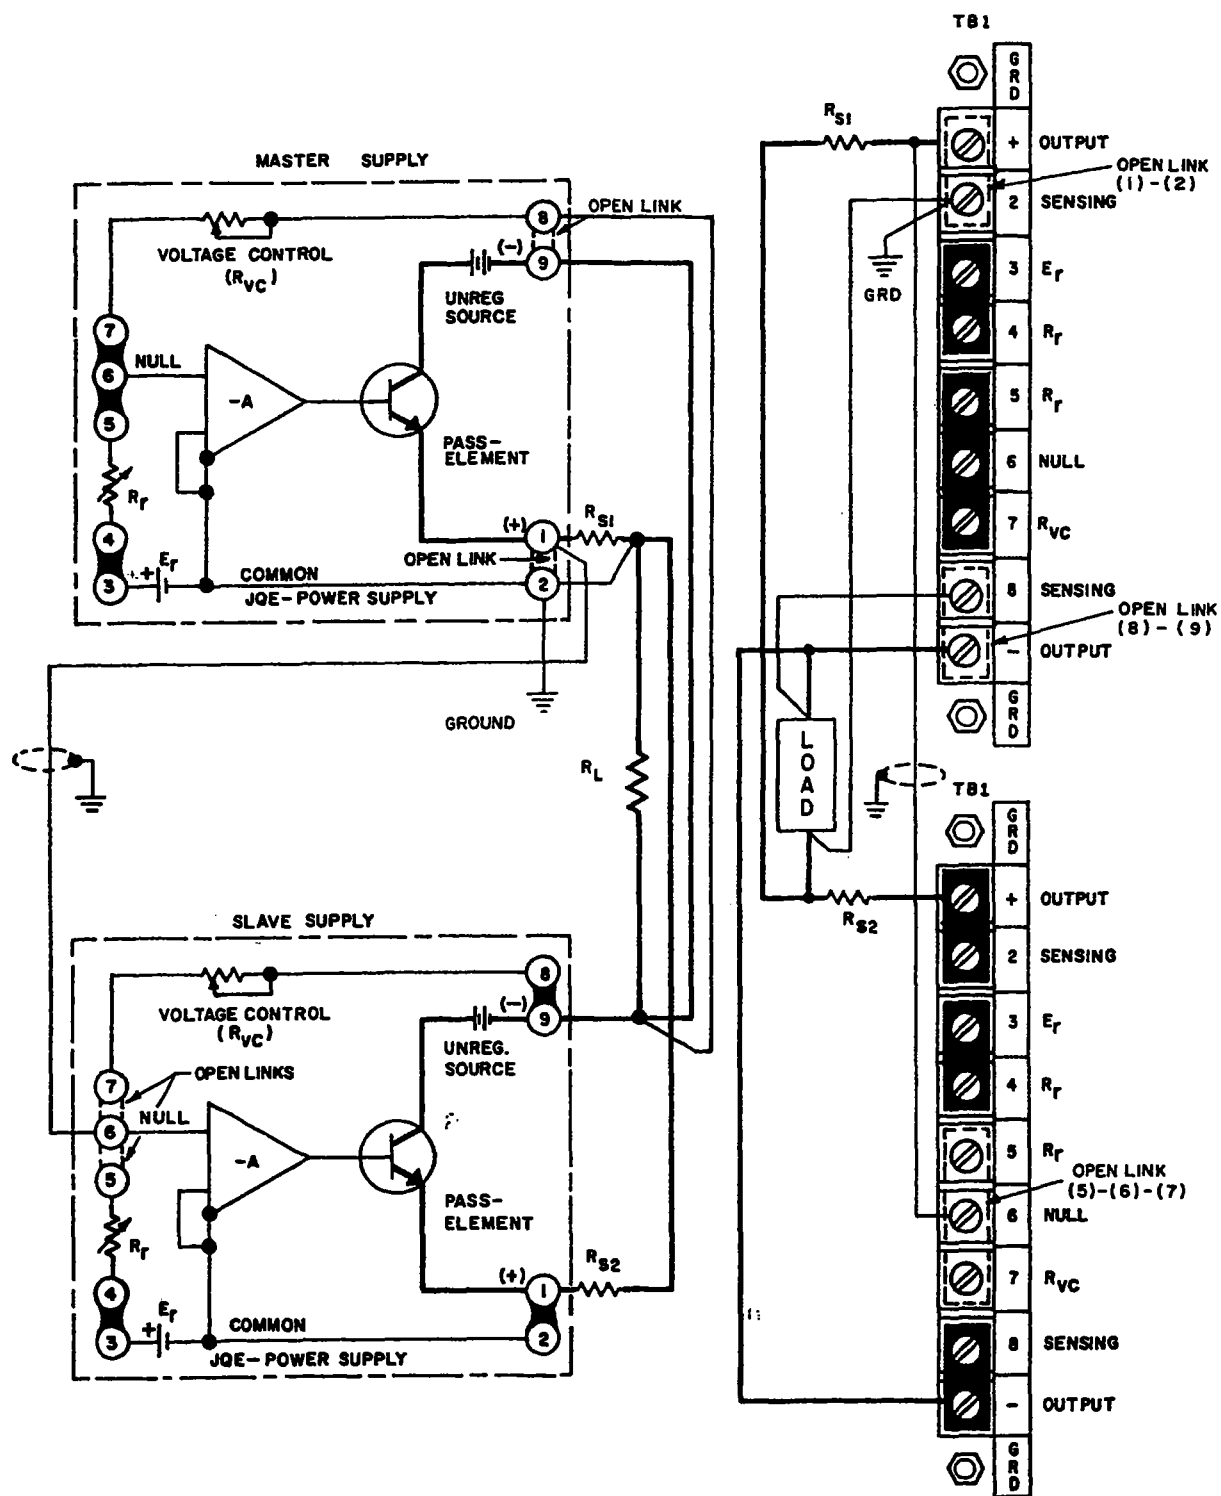

FIG. 3-15 MASTER-SLAVE PARALLEL CONNECTION OF JQE POWER SUPPLIES
3-44 MASTER-SLAVE PARALLEL OPERATION: Kepco Power Supplies may be paralleled if the output current from a single supply is not sufficient for the application at hand. With the parallel connection shown in FIG. 3-15, the total output current of the parallel supplies may be controlled from a single "Master" supply. To operate the parallel supplies in the "Master-Slave" connection, sensing resistors of equal value must be selected (R_{s1} , R_{s2} in FIG. 3-15) such that the voltage drop across them is about 0.1 to 0.25 volts at the output current of interest. The *sum* of the voltage drops across the load wire with the sensing resistors in series should *never exceed 0.5 volts* at the maximum desired operating current. If sensing resistors of the proper value are not available, the resistance of the load wires may be sufficient to establish the necessary voltage drops. In this case, the load wires should be trimmed such that *equal voltage drops* are established in the load wire from the "Master" and that from the "Slave" supply. Load wires should in general be of as heavy a wire gauge as practicable. Twisting of the load wires, as well as of the error sensing leads from the "Master" supply (although *not* shown in FIG. 3-15) is recommended.
- Connect supplies as shown in FIG. 3-15, keeping load and error sensing leads as short as possible. Use shielded wire for the connection from terminal (2) of the "Master" to terminal (6) of the "Slave" unit.